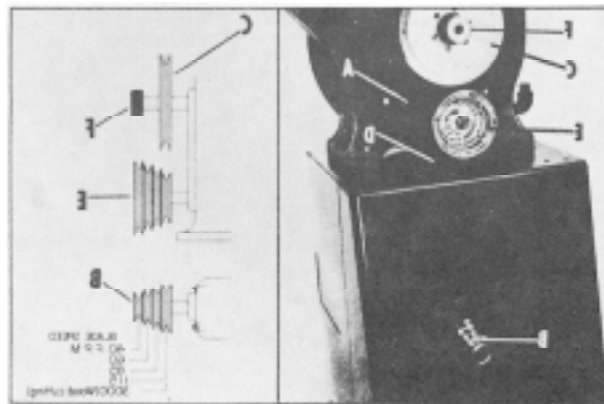

Fig. 21
With the longest belt (A) on the inside groove of the motor pulley (B) and on the driven pulley (C), as shown in Fig. 21, and the small belt (D) on one of the remaining three grooves of the motor pulley and the corresponding groove of the gear box pulley (E), speeds of 40, 60, 85, and 3000 FPM are readily available. To obtain speeds of 40, 60 and 85 FPM, the shifter knob (F) Fig. 21, must be pushed in all the way, and the small belt positioned on one of the three outside grooves of the motor pulley (B)
The blade speed of 115 FPM is obtained by pushing in the shifter knob (F) Fig 21, removing the long belt (A) from the pulleys and placing the small belt on the inside groove of the motor pulley (B) and the inside groove of the gear box pulley (E).